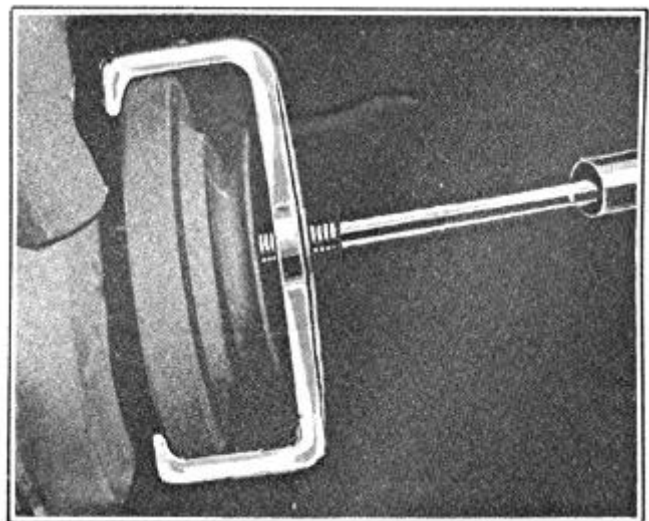

FIGURE 34
2. Using Puller J-676C, Figure 34, remove vibration dampener assembly.
4. Remove dampener screw, lock, and dampener. (Use Puller J-676C to remove dampener, Figure 34).